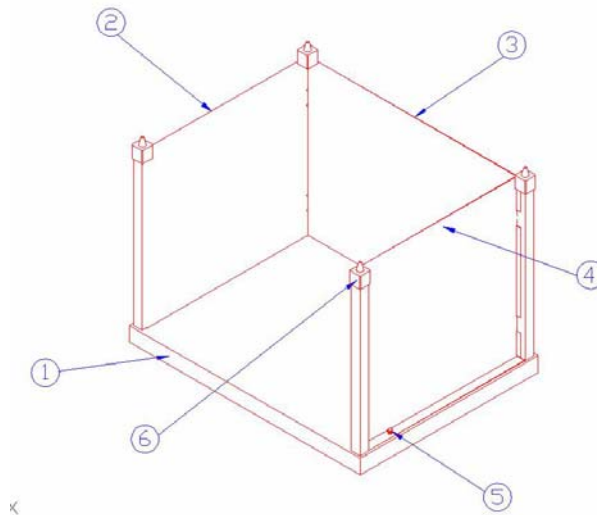
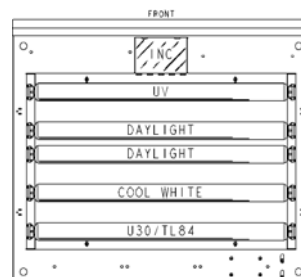

Figure 2. Judge II-S Assembly Drawing
Figure 3. Lamp Replacement
9. Place a Tube Cap in each of the four (4) corners of the booth by sliding it into the notch(es) located at the top of each panel. Press the Tube Cap down to seat it.
10. Insert all fluorescent bulbs into the Housing Assembly using Figure 3 below. (The lamps are already installed when shipped.) The INC, Tungsten Halogen lamp should not be touched with bare fingers because oil from the skin will reduce lamp life.
1. Remove from storage and identify all items Figure 2. Note the order in which these items are removed. To pack the unit, you will have to replace each item accordingly.
6. Place a Tube Cap in each of the four (4) corners of the booth by sliding it into the notch(es) located at the top of each panel. Press the Tube Cap down to seat it.
7. Insert all fluorescent bulbs into the Housing Assembly using Figure 3 below.
3. Refer to Figure 3 below to follow the replacement configuration. Replace *all* lamps. NOTE: The INC, Tungsten Halogen lamp should not be touched with bare fingers because oil from the skin will reduce lamp life.